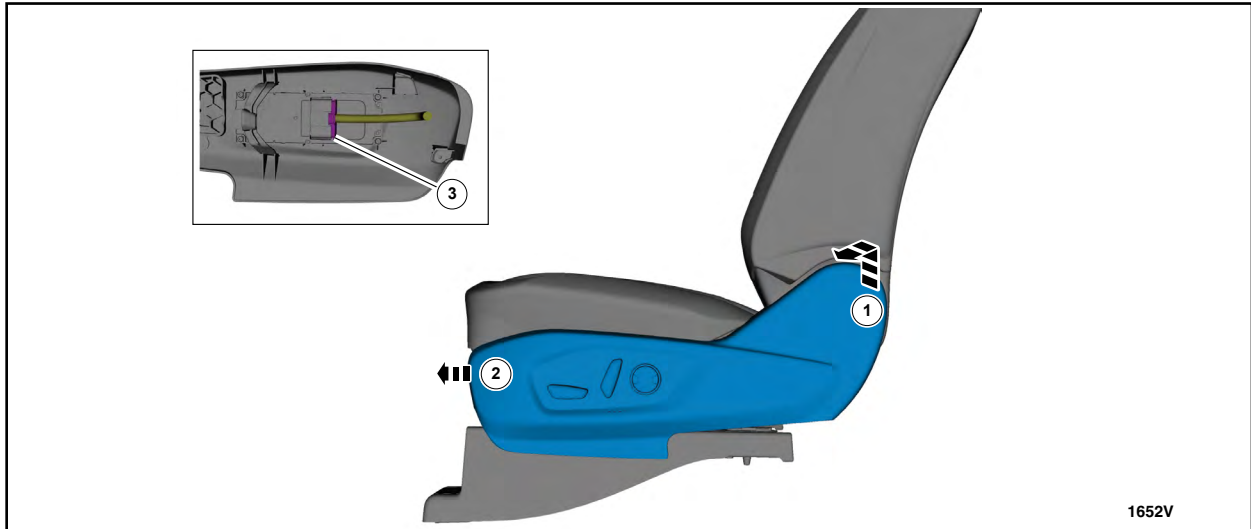

FIGURE 25
5. Remove the side shield. See Figure 25.